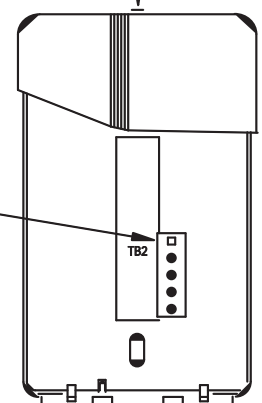

FIGURE 2
4. Snap cover onto base assembly. Install cover locking screw provided (see figure 2).